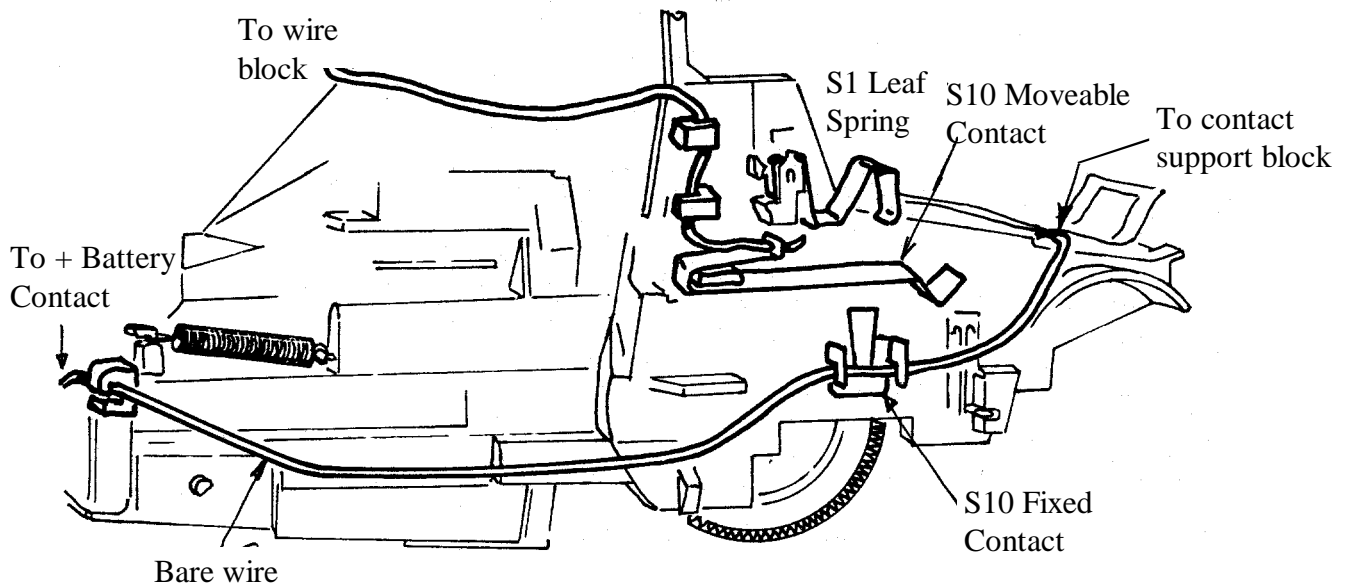

Fig. 53 Reconnecting wiring to contacts
65. Replace any Contacts and parts removed from the Gear Drive Cover in steps 43 - 47. Reconnect the (+) battery wire to the S10 fixed contact and the Contact Support Block, and the red jumper wire to the S10 movable contact (see Fig. 53).